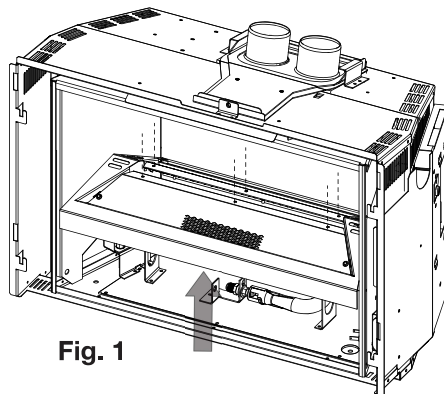

Fig. 1
- 2. Remove all glass embers and the 6 screws holding the glass ember tray in place (**Fig. 1**).